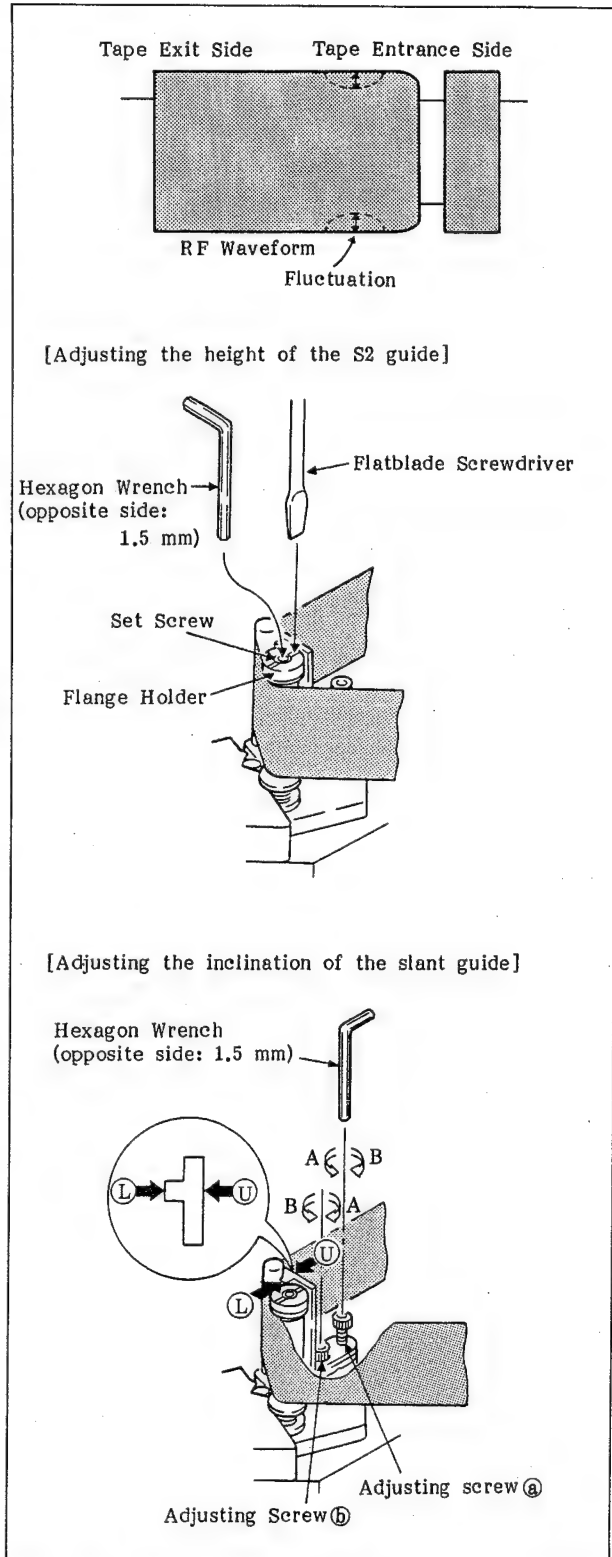

Fig. 9-13 Adjustments of the Height of the S2 Guide and the Inclination of the Entrance Slant Guide
13. Find the place where the RF waveform becomes flat by pressing the portion (U) or (L) shown in the lower portion of Fig. 9-13.
14. If the RF waveform becomes flatter when the portion (L) is pressed, turn the inclination adjusting screws (a) and (b) in the A direction, and if the RF waveform becomes flatter when the portion (U) is pressed, turn the inclination adjusting screws (a) and (b) in the B direction to flatten the RF waveform and minimize the fluctuation.
22. Find the place where the RF waveform becomes flat by pressing the portion (U) or (L) shown in the lower portion of Fig. 9-13.
23. If the RF waveform becomes flatter when the portion (L) is pressed, turn the inclination adjusting screws (c) and (d) in the direction of B, and if the RF waveform becomes flatter when the portion (U) is pressed, turn the inclination adjusting screws (c) and (d) in the direction of A to flatten the RF waveform and minimize the fluctuation.